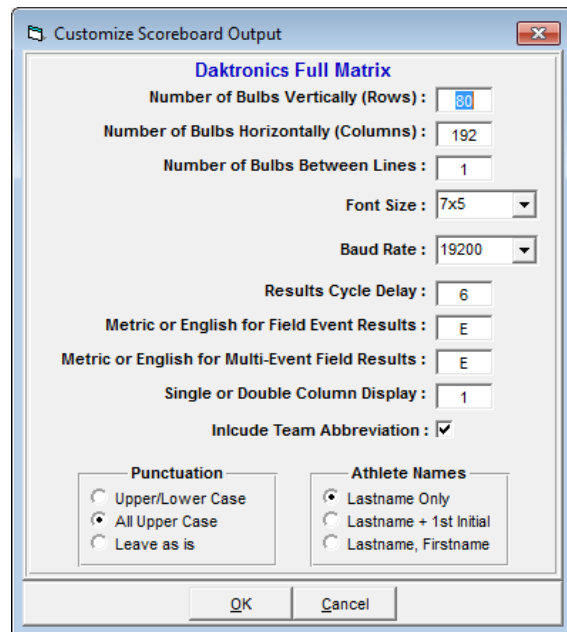

Figure 18: Customize Daktronics Full Matrix
- Go to **Interfaces > Scoreboard – Daktronics Full Matrix > Customize** (*Figure 18*).